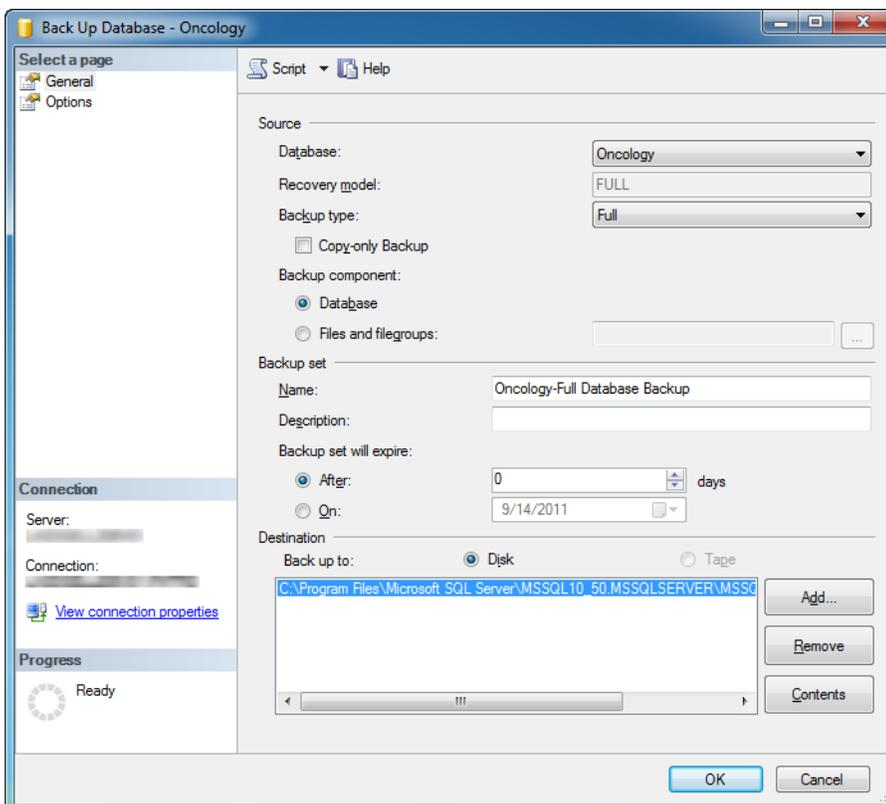

Figure 10-10. Selecting Full backup type, and clicking Add
4. Select **Full** for the **Backup type** option. Under **Destination**, click **Add** (Figure 10-10)